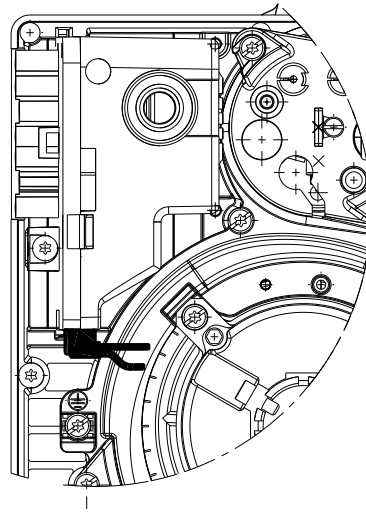

Fig. 24
- Check proper insertion of connection connectors according to the symbols shown on the bottom of the flame control equipment: make sure that the connectors are fully inserted by pushing them all the way in, each in its relevant position. All connectors must have the connection cables facing towards the inside of the burner (See Fig. 24)